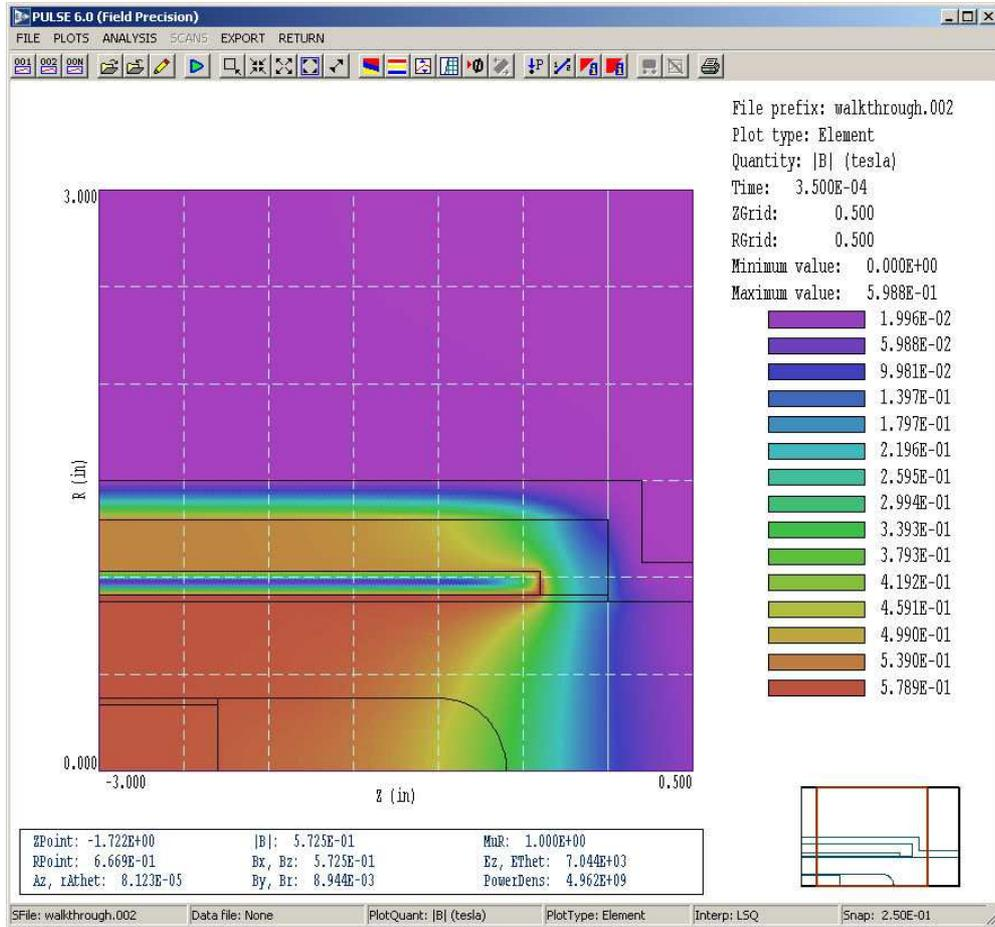

Figure 1: **Pulse** solution analysis working environment.
**Pulse** calculates time variations of magnetic fields in the presence of eddy currents. The program solves the two-dimensional magnetic diffusion equation in cylindrical and rectangular geometries. **Pulse** utilizes finite-element methods on variable-resolution conformal triangular meshes. The mesh size is limited only by the installed memory of the computer. You can define up to 250 regions to represent materials or coils. Multiple coils may be assigned arbitrary current waveforms using either mathematical functions or a flexible system of tabular function input. The program also handles non-linear magnetic materials with user-defined  $\mu_r(|\mathbf{B}|)$  tables. **Pulse** produces multiple data files at specified times and history files of magnetic and induced electric field at given locations. Data files may be analyzed in an interactive graphical environment. The program provides full information on the fields and magnetic permeability. Other features include automatic calculation of stored energy, peak field values, magnetic forces and torques. The program creates a wide variety of screen and hardcopy plots (Fig. 1).